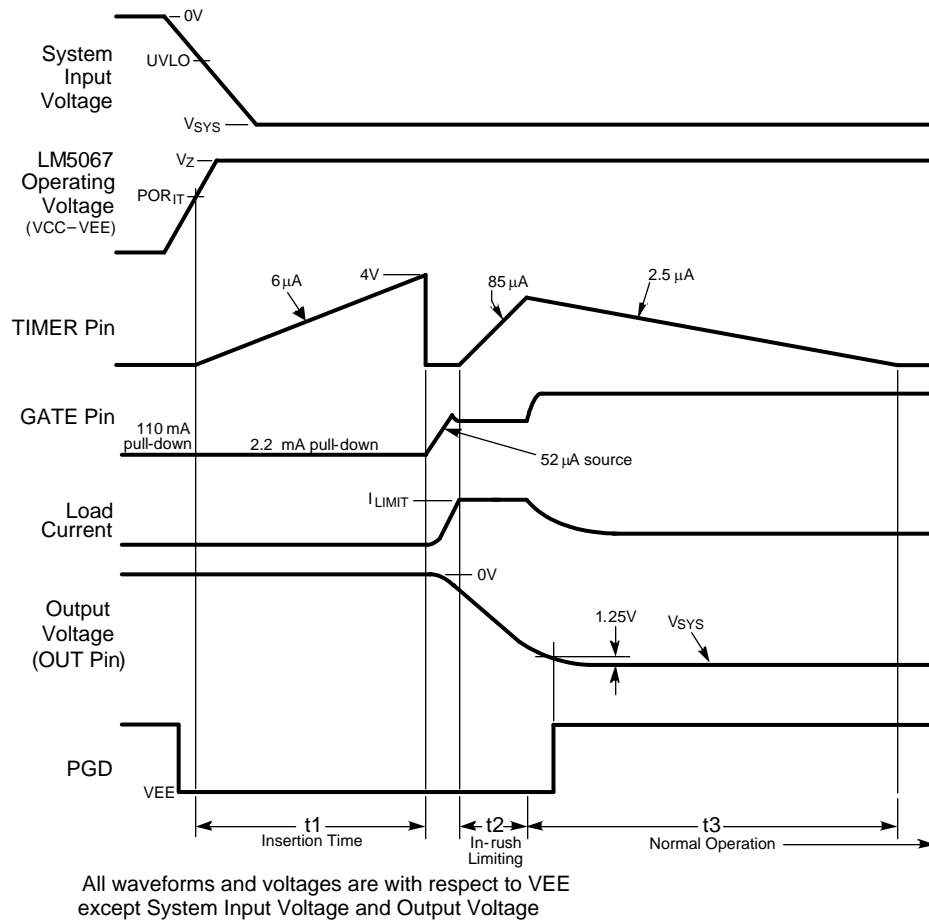

Figure 6. Power Up Sequence (Current Limit only)
The system voltage range of the LM5067 is -9V to -80V, with a transient capability to -100V. Referring to the Block Diagram, Figure 4, and Figure 6, as the system voltage (V_{SYS}) initially increases from zero, the external N-channel MOSFET (Q1) is held off by an internal 110 mA pull-down current at the GATE pin. The strong pull-down current at the GATE pin prevents an inadvertent turn-on as the MOSFET’s gate-to-drain (Miller) capacitance is charged. When the operating voltage of the LM5067 ($V_{CC} - V_{EE}$) reaches the POR_{IT} threshold (7.7V) the insertion timer starts. During the insertion time, the capacitor at the TIMER pin (C_T) is charged by a 6 μA current source, and Q1 is held off by a 2.2 mA pull-down current at the GATE pin regardless of the system voltage. The insertion time delay allows ringing and transients at V_{SYS} to settle before Q1 can be enabled. The insertion time ends when the TIMER pin voltage reaches 4.0V above VEE, and C_T is then quickly discharged by an internal 1.5 mA pull-down current. After the insertion time, the LM5067 control circuitry is enabled when the operating voltage reaches the POR_{EN} threshold (8.4V). As V_{SYS} continues to increase, the LM5067 operating voltage is limited at $\approx 13V$ by an internal zener diode. The remainder of the system voltage is dropped across the input resistor R_{IN} .
The GATE pin switches on Q1 when V_{SYS} exceeds the UVLO threshold (UVLO pin $>2.5V$ above VEE). If V_{SYS} exceeds the UVLO threshold at the end of the insertion time, Q1 is switched on at that time. The GATE pin sources $52\ \mu A$ to charge Q1's gate capacitance. The maximum gate-to-source voltage of Q1 is limited by the LM5067's operating voltage (V_Z) to approximately 13V. During power up, as the voltage at the OUT pin increases in magnitude with respect to Ground, the LM5067 monitors Q1's drain current and power dissipation. In-rush current limiting and/or power limiting circuits actively control the current delivered to the load. During the in-rush limiting interval (t_2 in Figure 6) an internal current source charges C_T at the TIMER pin. When the load current reduces from the limiting value to a value determined by the load the in-rush limiting interval is complete and C_T is discharged. The PGD pin switches high when the voltage at the OUT pin reaches to within 1.25V of the voltage at the SENSE pin.
The external N-channel MOSFET is turned on when the GATE pin sources 52 μA to enhance the gate. During normal operation (t_3 in Figure 6) Q1's gate is held charged to approximately 13V above VEE, typically within 20 mV of the voltage at VCC. If the maximum V_{GS} rating of Q1 is less than 13V, a lower voltage external zener diode must be added between the GATE and SENSE pins. The external zener diode must have a forward current rating of at least 110 mA.
During the insertion time (t_1 in Figure 6) the GATE pin is held low by a 2.2 mA pull-down current. This maintains Q1 in the off-state until the end of t_1 , regardless of the voltage at VCC and UVLO.
Following the insertion time, during t_2 in Figure 6, the gate voltage of Q1 is modulated to keep the current or Q1's power dissipation level from exceeding the programmed levels. Current limiting and power limiting are considered fault conditions, during which the voltage on the TIMER pin capacitor increases. If the current and power limiting cease before the TIMER pin reaches 4V the TIMER pin capacitor is discharged, and the circuit enters normal operation. See Fault Timer and Restart for details on the fault timer.
A) Insertion Delay - Upon applying the system voltage (V_{SYS}) to the circuit, the external MOSFET (Q1) is held off during the insertion time (t_1 in Figure 6) to allow ringing and transients at V_{SYS} to settle. Since each backplane's response to a circuit card plug-in is unique, the worst case settling time must be determined for each application. The insertion time starts when the operating voltage (VCC-VEE) reaches the POR_T threshold, at which time the internal 6 μA current source charges C_T from 0V to 4.0V. The required capacitor value is calculated from: